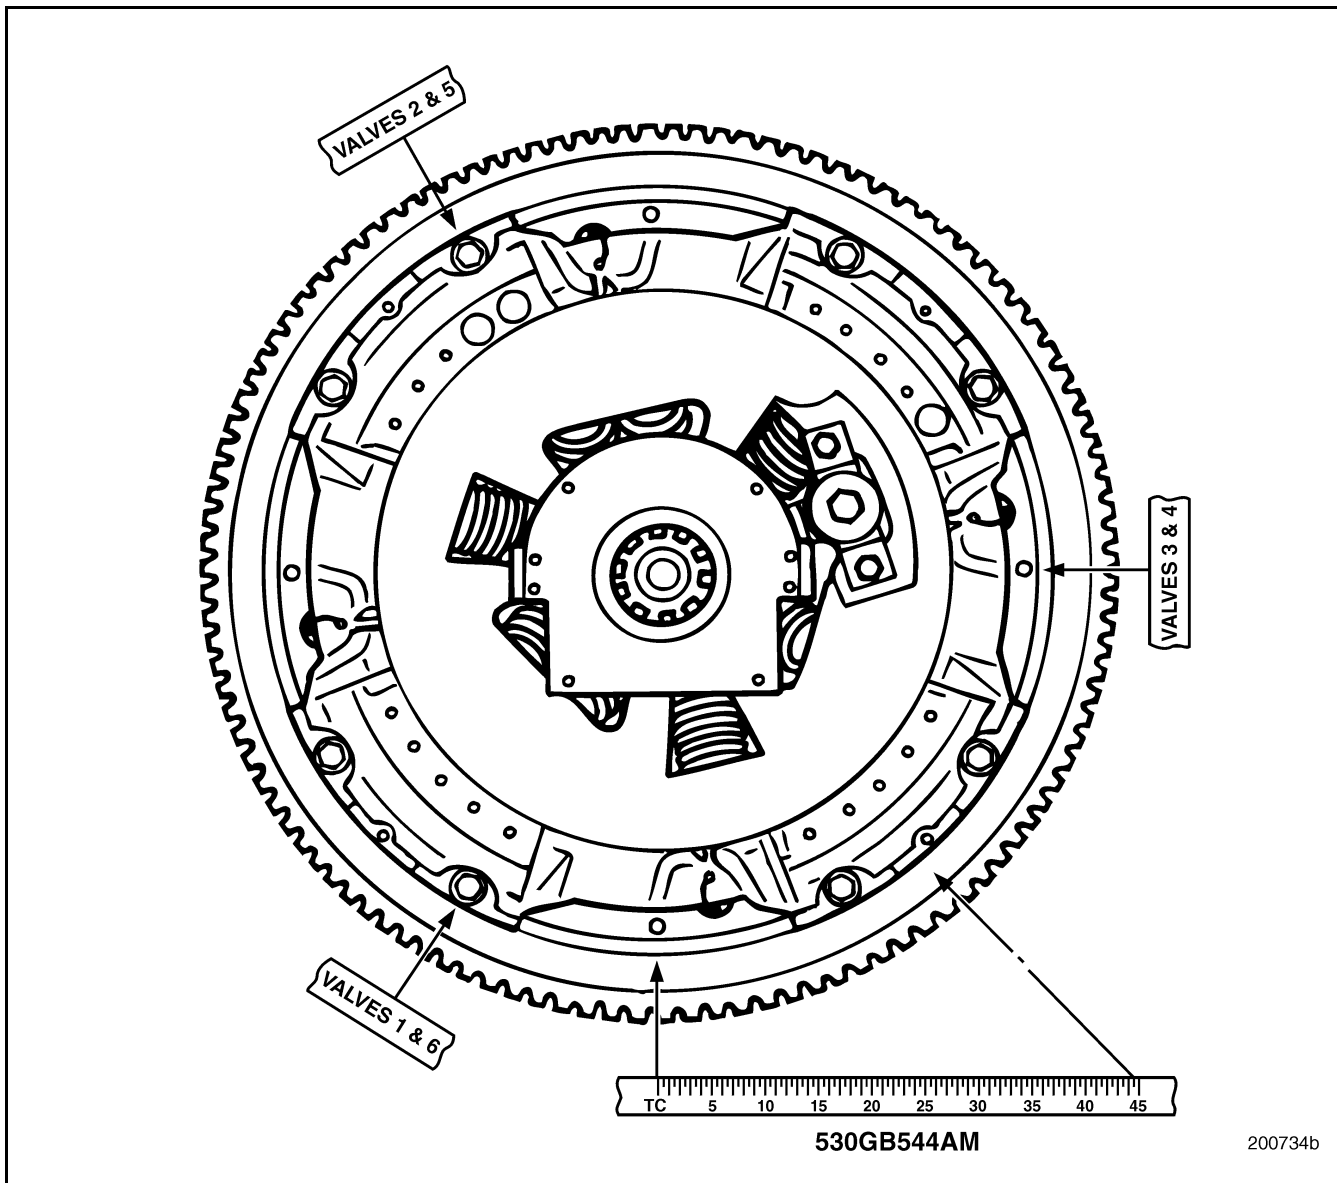

Figure 346 — Flywheel Markings
The flywheel has a stamped timing scale of top center (TC) to 45 degrees of engine travel (engine timing) and three stamped locations, 120 degrees apart, for valve settings as shown in Figure 346. The flywheel still has pump timing marks for application to both current and older engines; the marks are not needed for current engines.